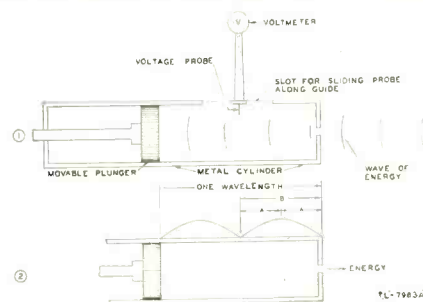

Fig. 14. (1) Field energy may be injected through orifice. (2) Distribution of standing wave in cavity
A resonator for wave length measurement is shown in Fig. 14.(1). Energy is allowed to enter the small opening in the end plate from a source of radiated fields. If the plunger is not at the proper position for the frequency of the waves entering, the cavity does not resonate and hence there is no reading on the meter. If the plunger is moved back and forth some point may be found where resonance takes place and the energy wave reflected from the piston aids the incoming wave rather than cancels it. A standing wave of voltage and electric field is then set up and is indicated by the meter.
If the resonating section is long enough so that a voltage maximum and minimum may be found by moving the r-f probe in its lengthwise slot, the wave length may be determined. Thus, in Fig. 14.(2) if distance  $A$  or  $B$  is determined, the wave length in the glide is  $2b$  or  $4a$ . This value is always greater than the wave length in air for the same frequency.